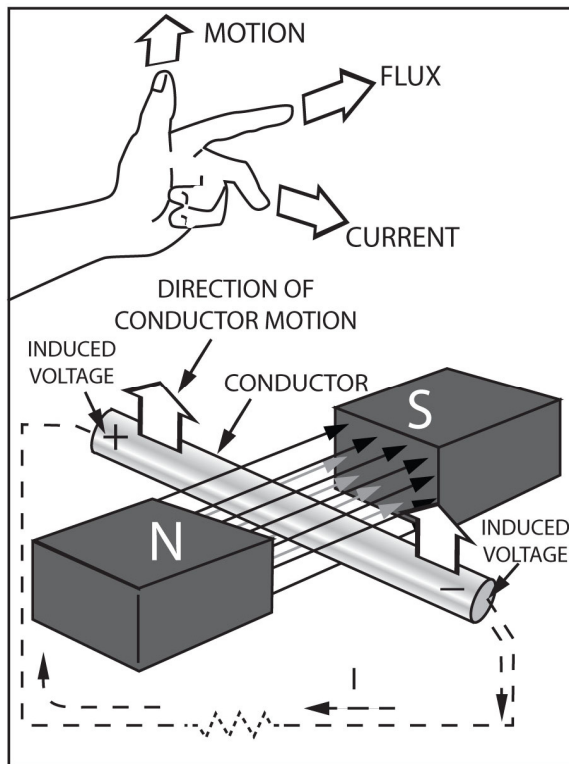

Fig. 10.5
A short wire or conductor has been inserted into the magnetic field that exists between north (N) and south (S) poles of two magnets in Figure 10.5. When you move the conductor up through the magnetic field, it cuts across the magnetic lines of force, flux lines, which are produced by the magnets. As the magnetic flux lines pass through the conductor, the free electrons in the conductor are forced to move. These free electrons move towards one end of the conductor, which leaves a deficiency of electrons in the other end. This excess and deficiency of electrons causes the opposite ends of the conductor to take on negative (-) and positive (+) charges as shown. So, a difference of potential or voltage is developed across the conductor.
The voltage developed across the conductor, shown in Figure 10.5, is due to the relative motion between the conductor and the magnetic lines of force. This relative motion must be present for a voltage to be produced. The conductor may move while the field remains stationary, or the conductor stationary while you moved the field. Either condition produces a voltage. No voltage will be produced when there is no relative motion.
The voltage produced within the conductor is generally called *induced voltage*. This voltage is induced within the conductor regardless of whether there is current flowing through the conductor or not. In fact, a continuous current cannot flow through the conductor unless there is a complete circuit. You might form such a circuit by connecting a load, like a resistor, across the conductor as shown by the dashed line in Figure 10.5. Current could then flow through the load resistance as shown.
The polarity of the voltage induced within the moving conductor is determined by the direction that the conductor is moving. In Figure 10.5, take note of, the direction of the conductor motion and the